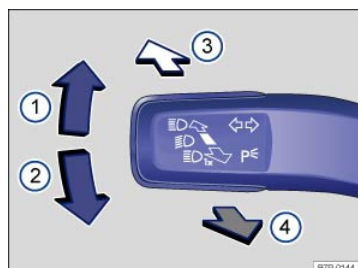

Fig. 80 Turn signal lever and high beam switch.
**Move the lever to the desired position ⇒ Fig. 80 :**
- ① Right turn signal.
- ② Left turn signal.
- ③ Switching high beams on ⇒ . The indicator light comes on in the instrument cluster when the high beams are switched on.
- ④ Switching the high beams off and operating the headlight flasher. The *headlight flasher* turns on the high beams as long as the lever is pulled and manually held in the pulled position. The indicator light lights up. When released, the lever moves back to the home position and turns off the high beams. The indicator light goes out.